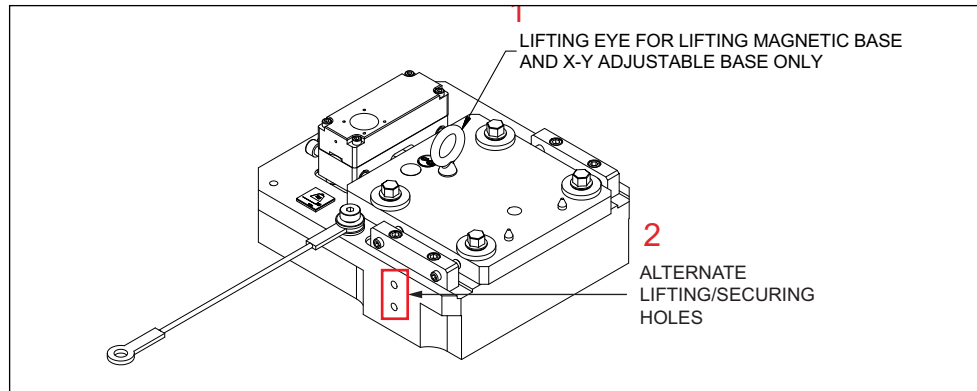

FIGURE 3-2. MAGNETIC BASE LIFTING
Use the lifting eye provided in the tool kit to lift the magnetic base/X-Y adjustable base assembly from the shipping case (see Figure 3-2 on page 19).
3. If appropriate, use the alternate 3/8-16 UNC holes on the side of the magnetic base for additional securing of the base with customer-supplied brackets (see Figure 3-2 on page 19).